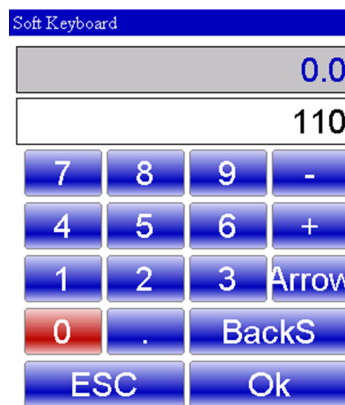

Figure 28 Soft Keyboard for setting not predefined angle of the piece
- By touching one of the height arrows starting from this  in the clockwise direction, the next segment will be taken to different predefined angles, that is 45, 90, 135, 180, -135, -90, -45. Pressing the soft-key  is possible introduce angles different from the predefined, like showed in figure 28